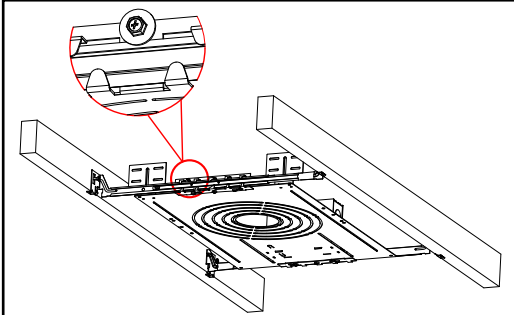

Figure 10
2. Adjust and center the downlight opening hole as desired, by sliding the frame along the bar hangers. Lock and secure the frame with the bar hangers by tightening the edging screws. (Fig.10)